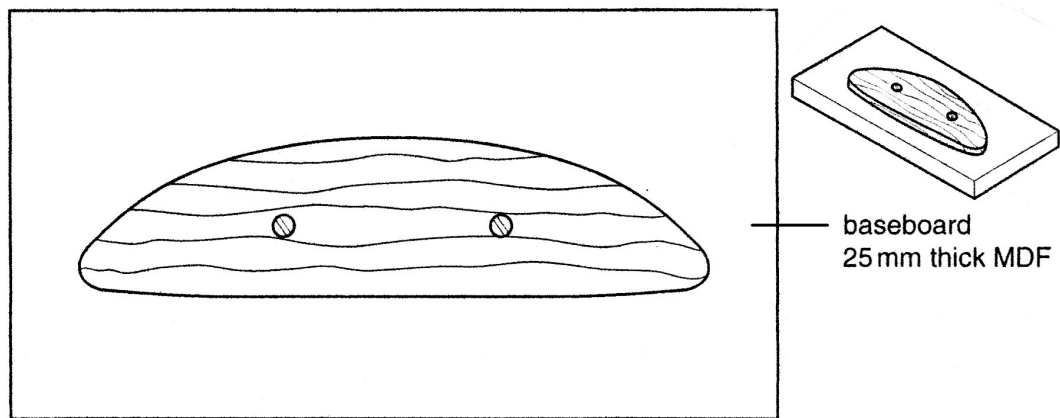

Fig.4
- (b) Fig. 4 shows a wooden former around which a length of annealed mild steel rod could be bent to the shape of the end frame. The former is fixed to a baseboard.
Add sketches and notes to Fig. 4 to show how the annealed mild steel could be held in place while it is bent to shape around the former.